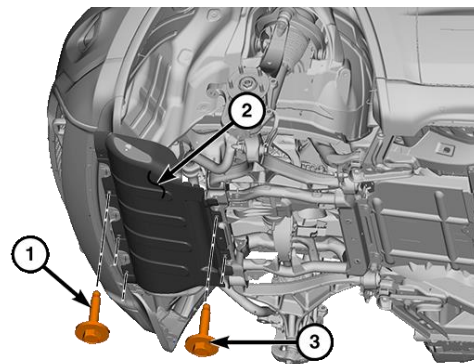

Figure 3 – Front Cover
10. Remove the front cover (Figure 3).